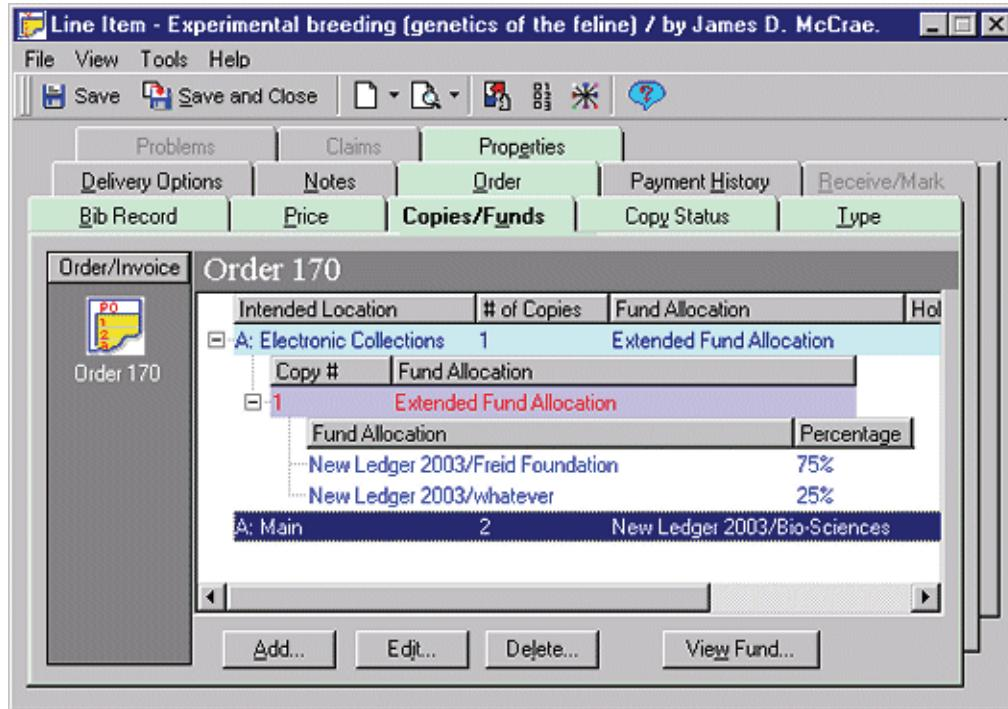

Figure 6-33. Copies/Funds tab, hierarchy
Once copies and funds have been defined and the **Copies and Funds** dialog box closed, the copies and funds display in a hierarchical structure (see Figure 6-33 on page 6-55.) This structure provides a consolidated display of all locations and funds.
5. If your entries are complete and you will not be using the Extended Fund Allocation feature, click the **Close** button to return to the **Copies/Funds** tab of the **Line Item** dialog box (see Figure 6-33). Otherwise, continue with Procedure 6-12, Editing extended fund allocations or Procedure 6-13, Adding an extended fund allocation.
Result: The fund's allocation is changed. The **Copies and Funds** dialog box closes, and all copies and funds for the item display in a hierarchical structure on the **Copies/Funds** tab of the **Line Item** dialog box (see Figure 6-33).
Result: An extended fund allocation is added to a copy. The **Copies and Funds** dialog box closes, and all copies and funds for the item display in a hierarchical structure on the **Copies/Funds** tab of the **Line Item** dialog box (see Figure 6-33).
The copy and fund information displays in a hierarchical structure on the **Copies/Funds** tab (Figure 6-33) after fund allocations have been completed.